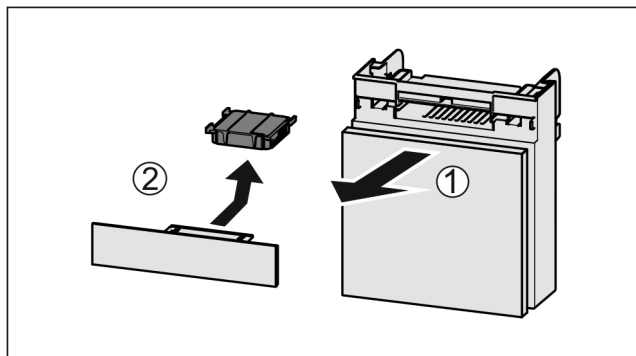

Fig. 159
- Pull out the compartment Fig. 159 (1).
- Remove the carbon filter Fig. 159 (2).